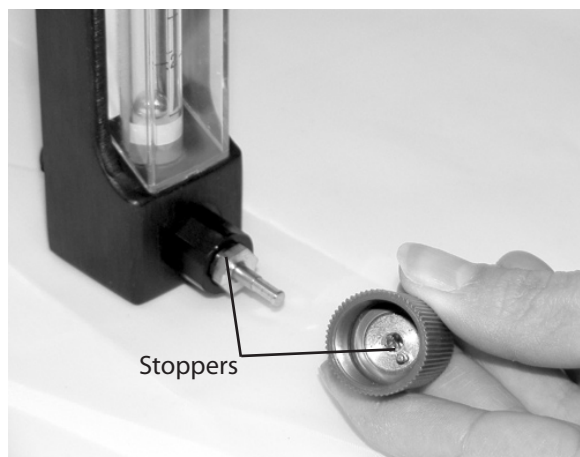

Figure 4-19: Put Knob Back Onto Needle Valve
6. Once ball is resting on the stop, put knob back onto needle valve. Push on fully and turn knob until it contacts the stopper. (See Figure 4-19)